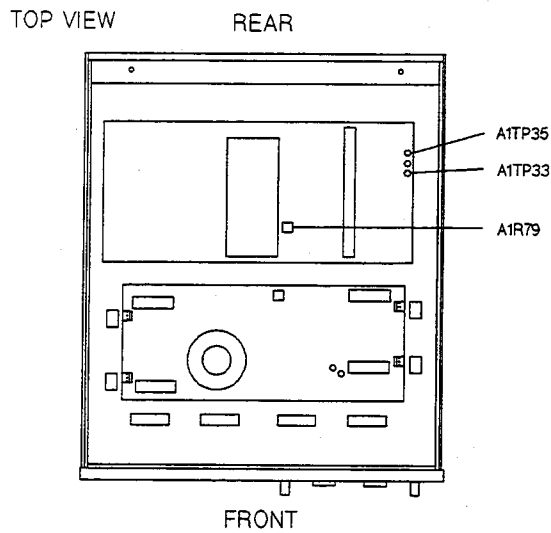

Figure 3-2. Power Supply Voltage Adjustment Location
5. Connect multimeter's Lo input to A1TP35 (COM), and connect the Hi input to A1TP33 (13 V). Figure 3-2 shows the location of A1TP33 and A1TP35.
6. Turn A1R79 (**V-ADJ**) fully **CCW** (Counter Clock-Wise). Figure 3-2 shows A1R79's location.